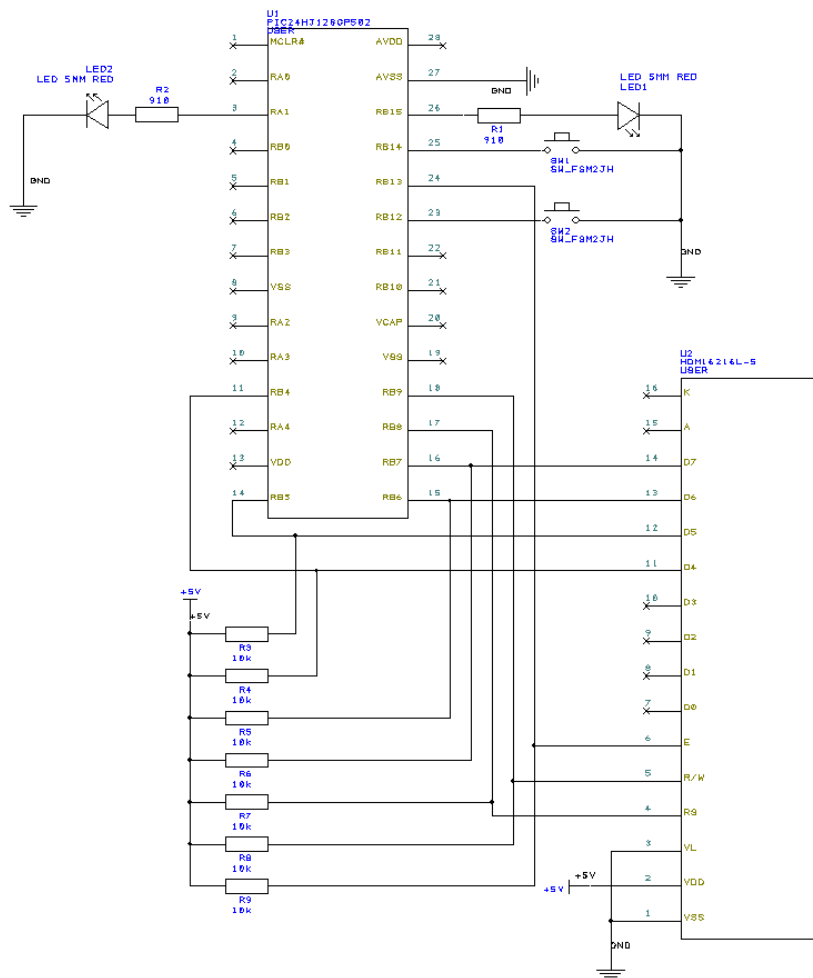

Figure 1. LCD Interface to Microstick II with 5V supply from external in-lab power supply (Option 1)
The LCD interface is divided into control lines (E, R/W#, RS), data lines (D7:D0) and power (VDD, VSS, VL, K, A). The 4-bit interface mode used in this lab is used to reduce the number of connections between the PIC24 and LCD module, allowing 4 transfer lines to be used (D7:D4). D3:D0 are unused. Figure 1 shows a PIC24 LCD interface for a HDM16216L-5-L30S standardized around the HD44780 LCD controller. **Additional information on the LCD interface and programming can be found in Chapter 8 of the textbook (pages 302-310).**
- Wire all data connections as shown in Figure 1
- Modify the pin values in the code according to Figure 1.